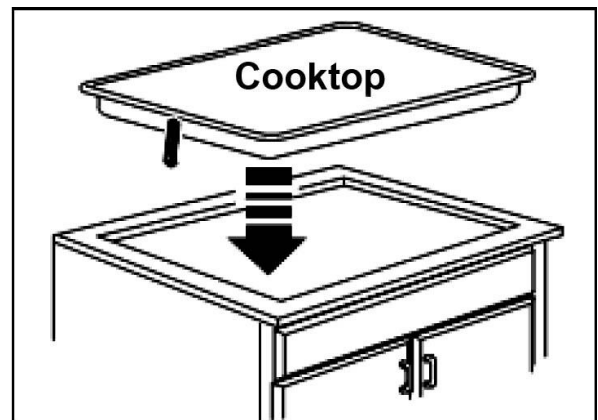

Figure 11
- 4) After the foam gasket has been affixed, place the cooktop into the countertop (see Figure 11).